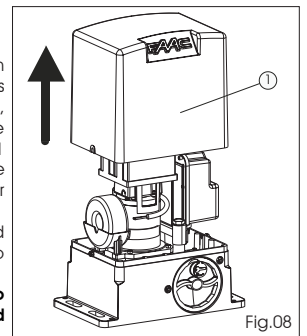

Fig.08
1- Remove the cover, Fig. 08 ref. 1.